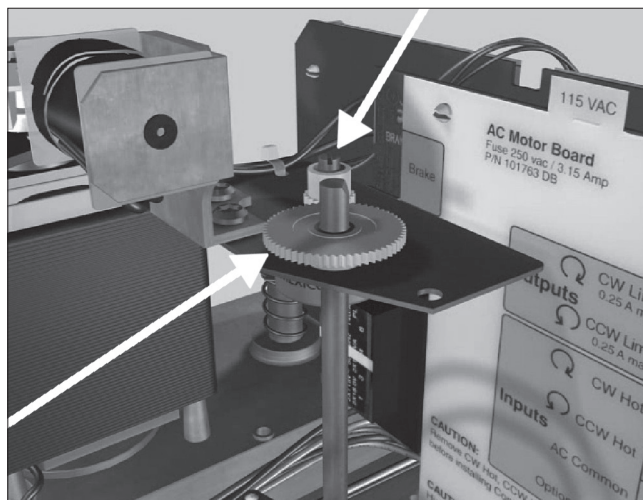

Figure 8.
4. Place small (20-tooth) gear on Pot shaft and tighten. Place spacer on Camshaft then place large (60-tooth) gear on Camshaft. Properly positioned, gears should mesh evenly. (See Figure 8).